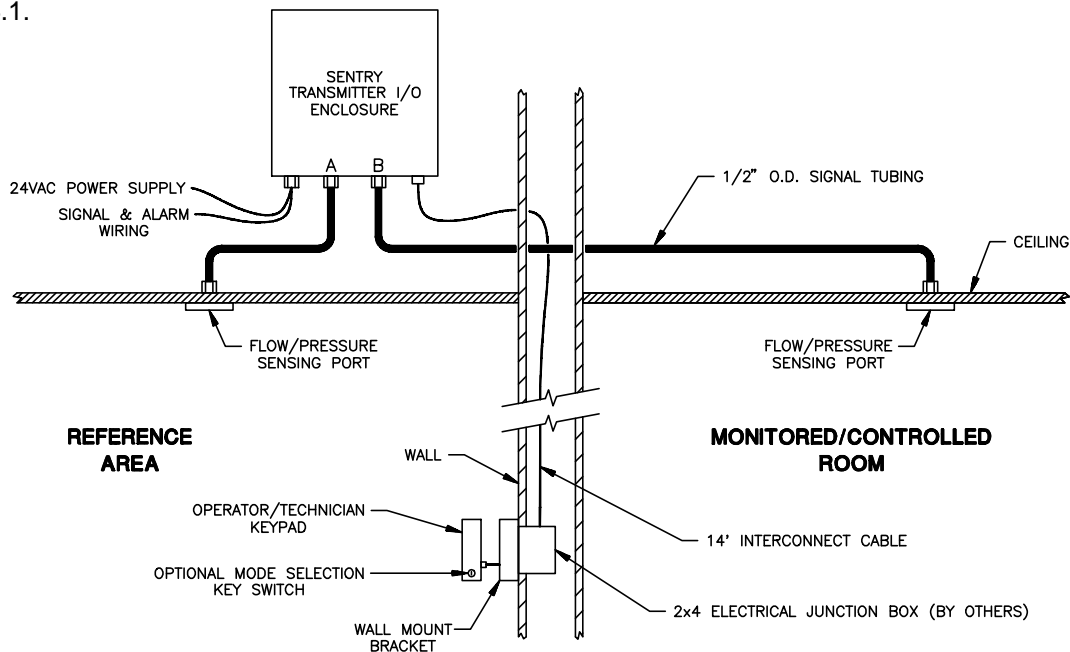

Figure 4.1
- Figure 4.1 shows the general arrangement for installing the various components of the SENTRY.
- The Transmitter I/O Enclosure must be mounted in the proximity of the monitored room and reference area (see Section 4.3), and the Keypad Assembly can be mounted up to 14 feet away from the Transmitter I/O Enclosure. See Figure 4.1.
NOTE: The distance between the two selected mounting locations must be less than 25 feet. The 25 feet of tubing provided must be proportioned between the monitored room to the Transmitter I/O Enclosure and the reference area to the Transmitter I/O enclosure (see Figure 4.1). **All 25 feet of 1/2" O.D. tubing must be used.**